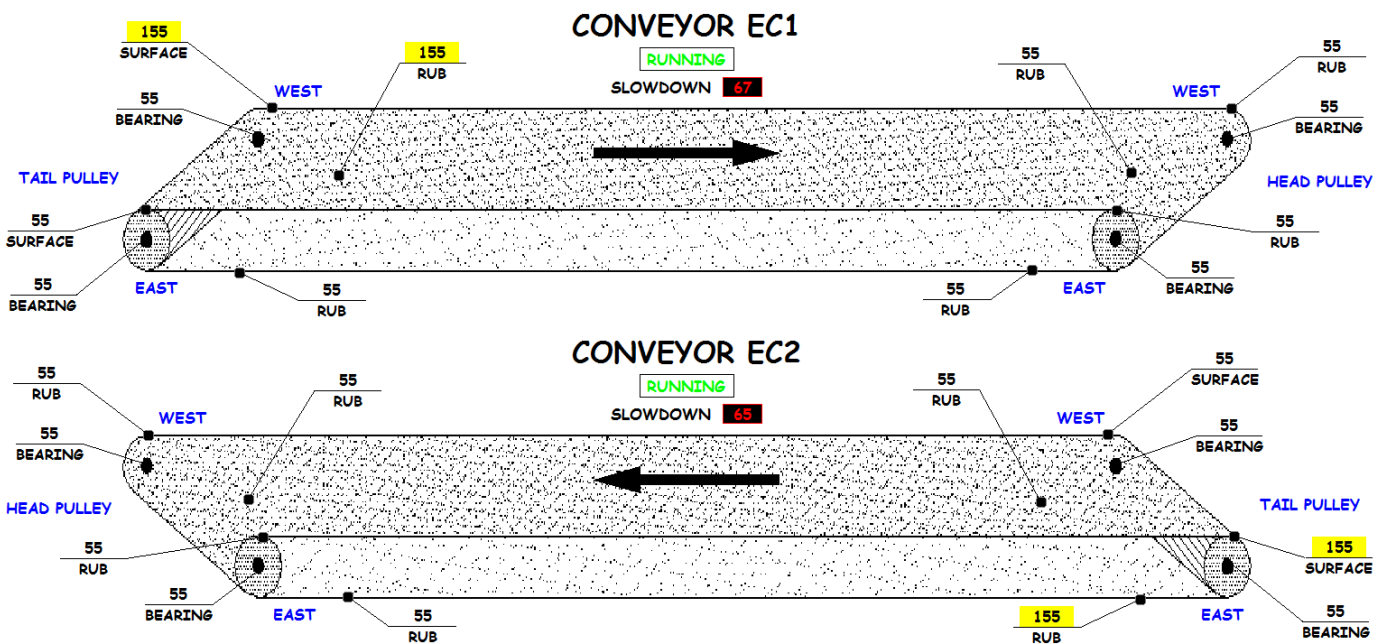

Figure 2 - Showing Hazard Monitoring Screens with Warning Setpoints reached.
- If any point reaches the Feed Shutdown Setpoint (155° F), that point will flash Yellow (Figure 2).